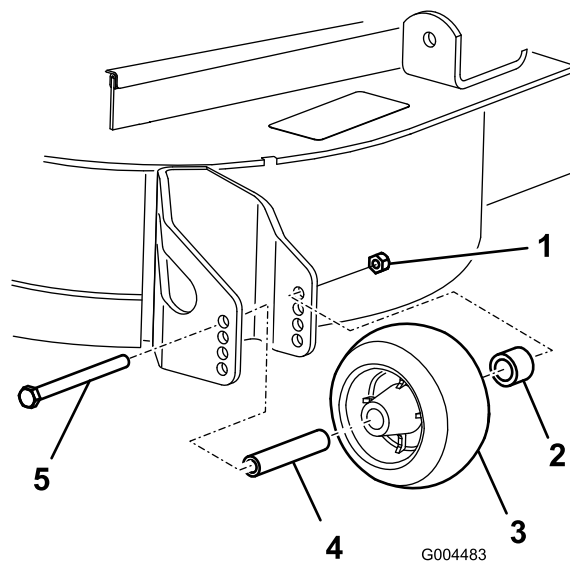

Figure 22
- After adjusting the height of cut, adjust the rollers by removing the flange nut, bushing, spacer, and bolt (Figure 22).
Note: Torque to 54-61 N-m (40-45 ft-lb) (Figure 22).